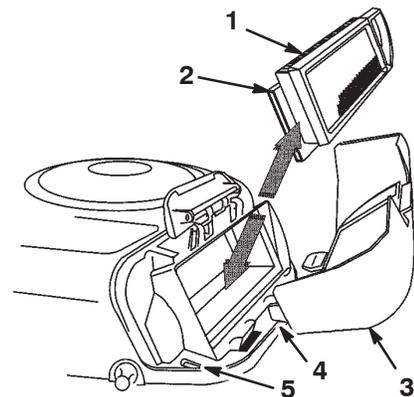

Figure 24
6. Carefully slide the paper element and the foam element from the blower housing (Fig. 24).
2. Align the tabs on the air cleaner cover with the slots of the blower housing (Fig. 24).